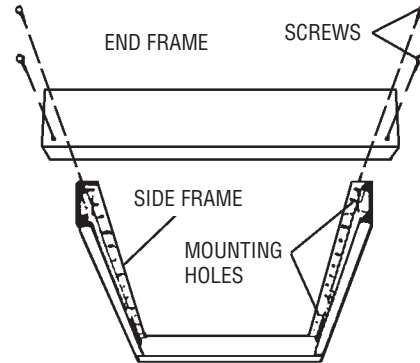

**Figure 3**
2. Make wiring connections in accordance with Figure 3 and wiring instructions. The heater must be properly grounded as a precaution against electrical shock. Use a properly grounded junction box for connecting the heater to the power supply.
5. Connect the heater panel leads to the power supply leads (see Figure 3 and WIRING instructions). The heater must be properly grounded as a precaution against electrical shock. Use a properly grounded junction box for connecting the heater to the power supply. The heater may be moved along side frames to facilitate wiring.
3. Insert the heater panel through the opening (see Figure 7) and make wiring connections (see Figure 3 and WIRING instructions). The heater must be properly grounded as a precaution against electrical shock. Use a properly grounded junction box for connecting the heater to the power supply.